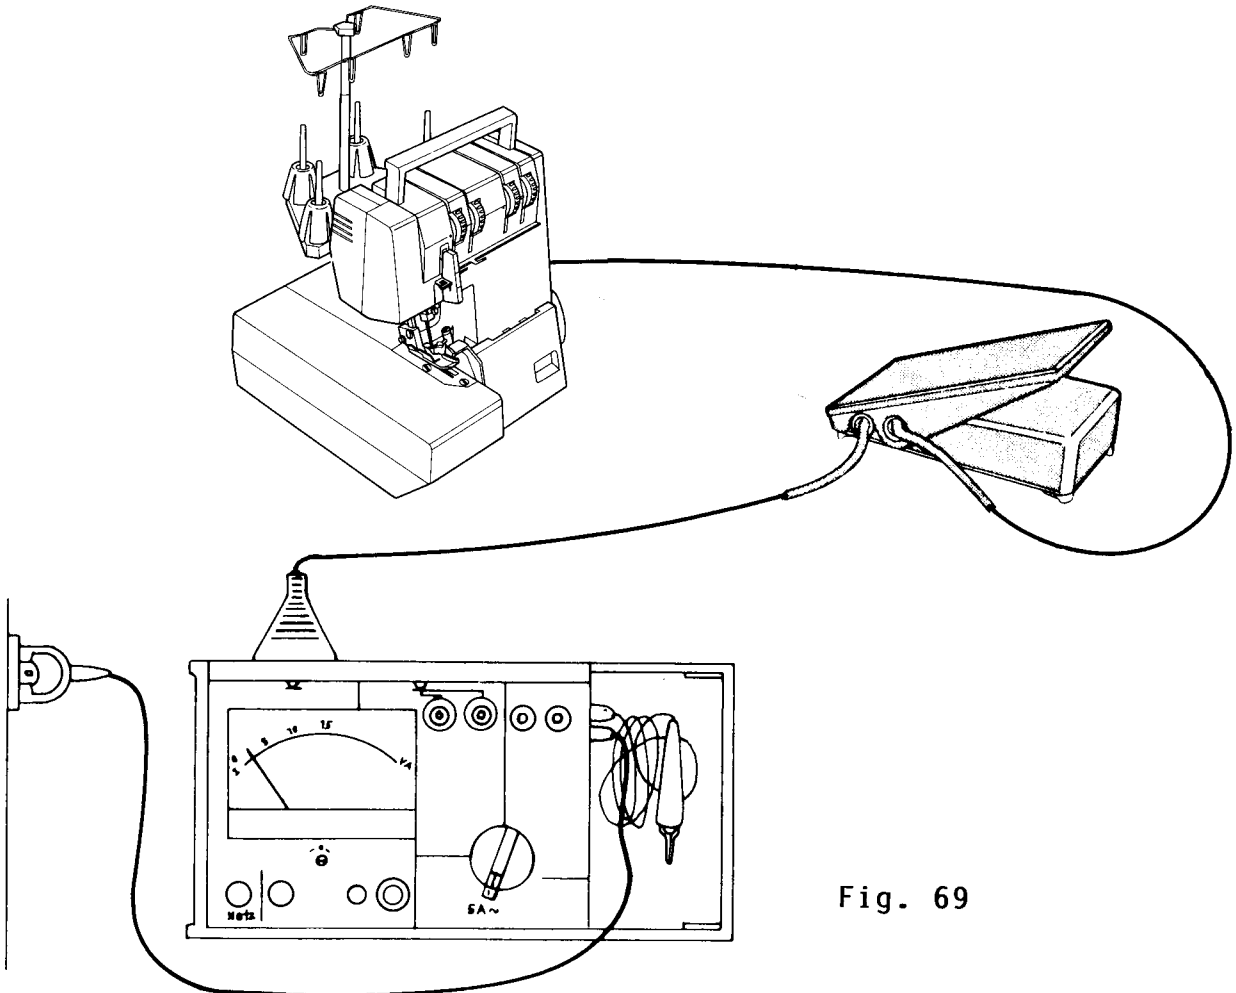

Fig. 69
- * Leave sewing machine plug in left socket (**Fig.69**).